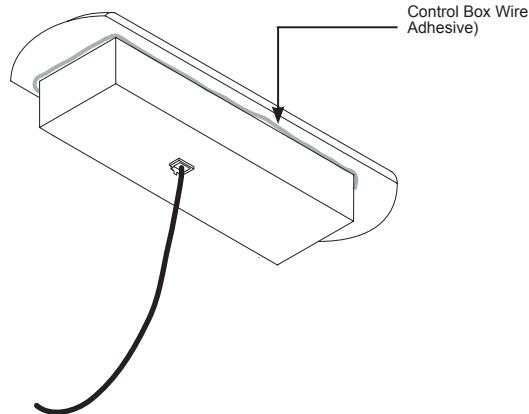

Figure 5 - Adhesive Application
- 2 Sparingly apply adhesive around the base of the control panel (Figure 5).